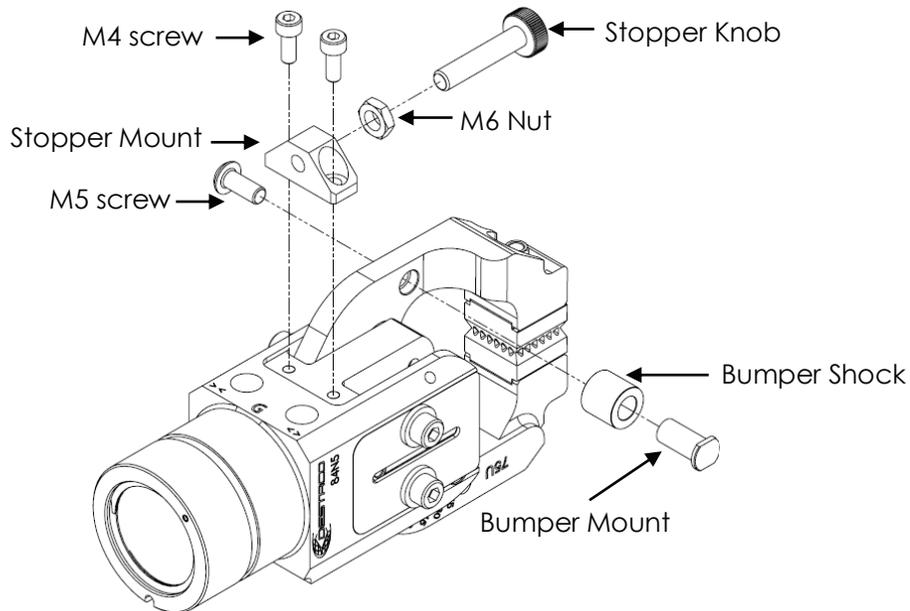

Fig.19
2. Remove the existing Stopper Mount and Stopper Knob by unscrewing the M4 screw using 3mm Allen key (see Fig.19).
3. Remove the existing Bumper Mount and Bumper Shock by unscrewing the M5 screw using 4mm Allen key (see Fig.19).